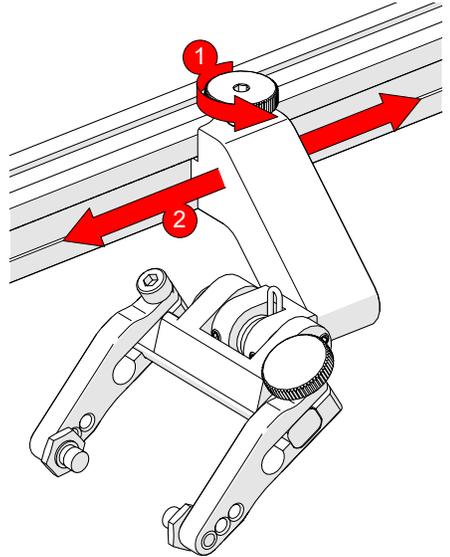

Fig. 35 - Position on frame bar
2. Use the probe holder adjustment knob to position the probe holder along the frame bar (Fig. 35).